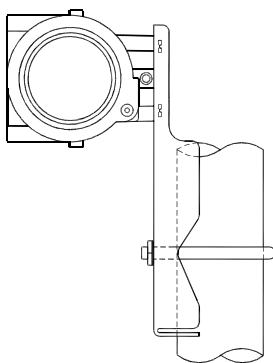

Figure 2.1 The installation of pipe mounting flat bracket
**The installation of pipe mounting flat bracket:** the typical installation as Figure 2.1 shows. Fix NCS-TT105 temperature transmitter in flat bracket using four bolts provided, and then fix the flat bracket on the vertical pipe in  $\Phi 50\text{mm}$  around with the U-shape bolt provided.